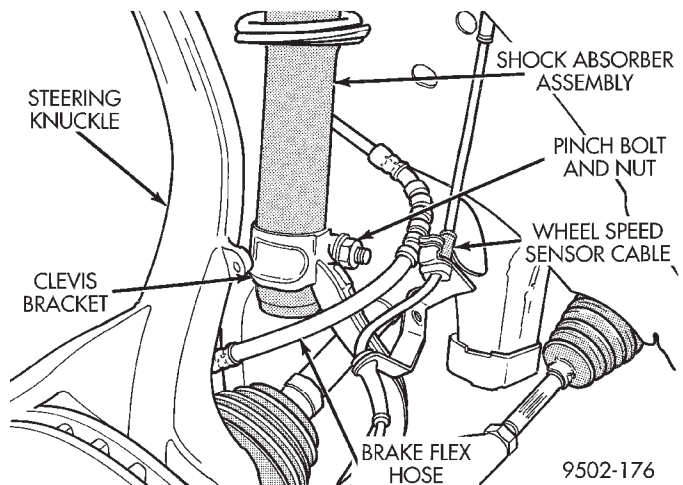

Fig. 6 Shock Absorber Clevis Bracket Pinch Bolt
- (8) Remove pinch bolt attaching shock absorber clevis to shock absorber (Fig. 6).
(3) Install the pinch bolt retaining the shock clevis to the shock absorber (Fig. 6). Tighten the pinch bolt to a torque of 88 N·m (65 ft. lbs.).